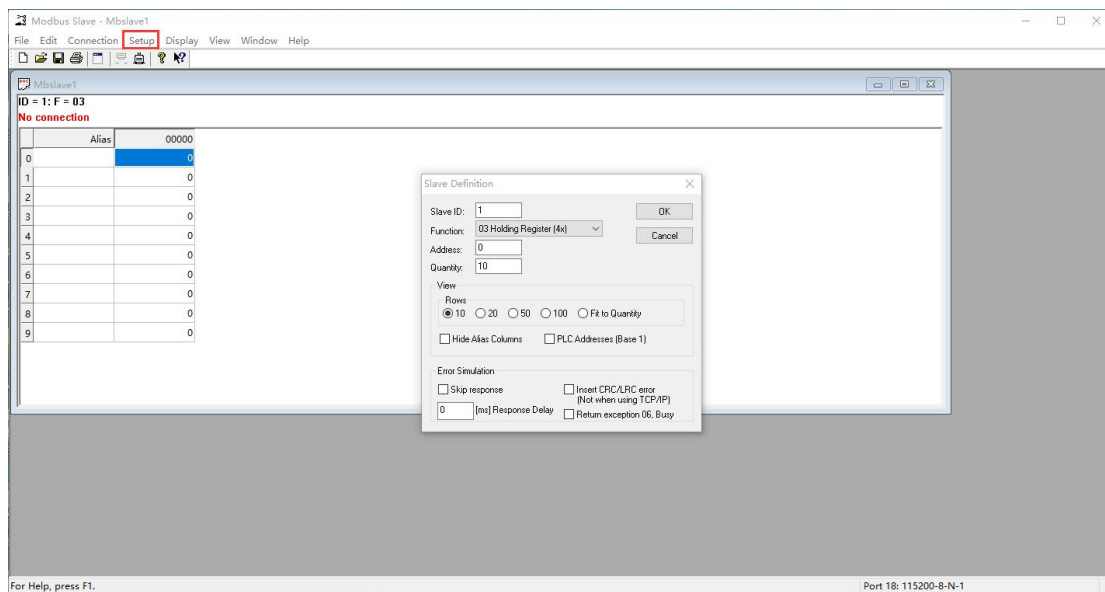

Figure 6-25 Slave software MODBUS protocol settings
5) Open "Modbus Slave" tool, MODBUS protocol setting is the same as "Modbus Poll", select function Code 3, as shown in Figure 6-25.